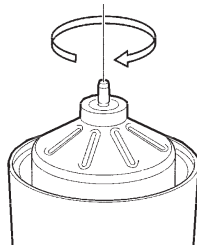

Figure 8
3. Install the rotor. Turn the rotor by hand to make sure that it rotates easily (Figure 8).